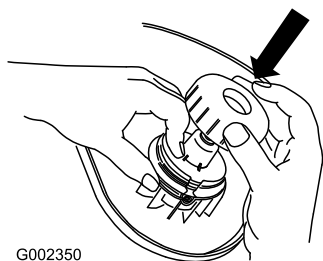

Figure 13
2. Holding the line and spool, place the cap over the spool (Figure 13).